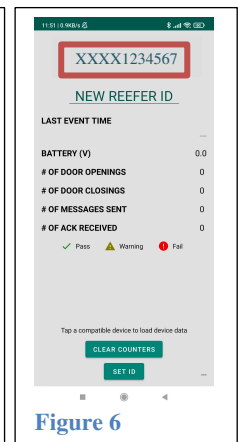

Figure 6
7. After setting the ID, tap the NFC area again to read the ID and confirm it was set. The new container ID will appear in the top field as in figure 6.